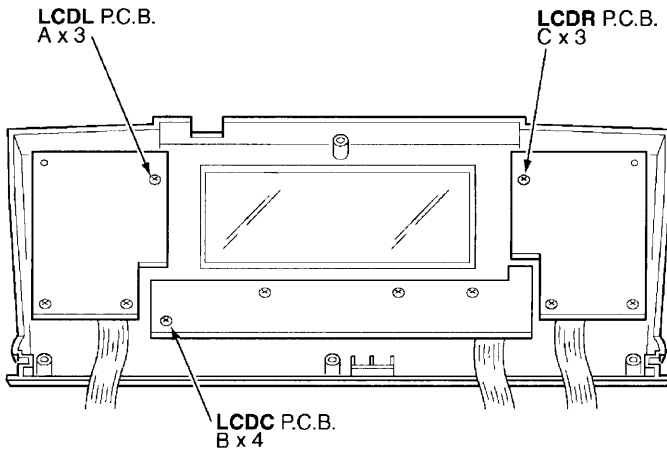

Figure-16
- Remove the LCDL P.C.B. mounting screws (A 3 pcs.) as shown in Figure-16.
- Remove the LCDC P.C.B. mounting screws (B 4 pcs.) as shown in Figure-16.
- Remove the LCDR P.C.B. mounting screws (C 3 pcs.) as shown in Figure-16.